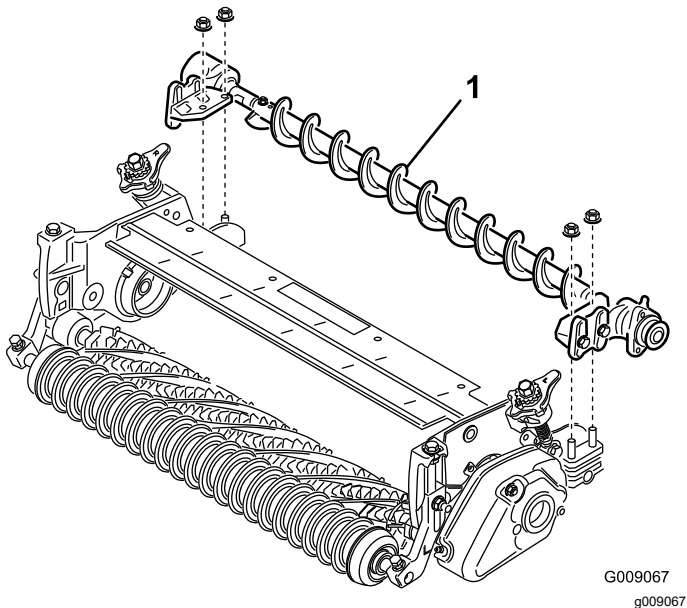

Figure 24
10. Position the roller brush assembly mounting brackets onto the roller bracket bolts (Figure 24). Secure the brush assembly mounting brackets to the cutting unit side plates with the nuts previously removed.